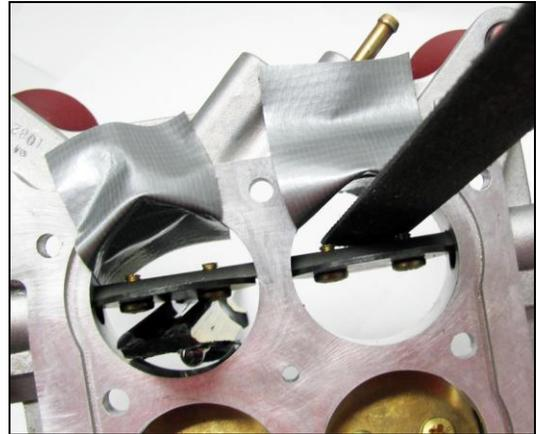

Figure 2
2. In Figure 2, the throttle body has been removed from the main body and placed on a carburetor stand.